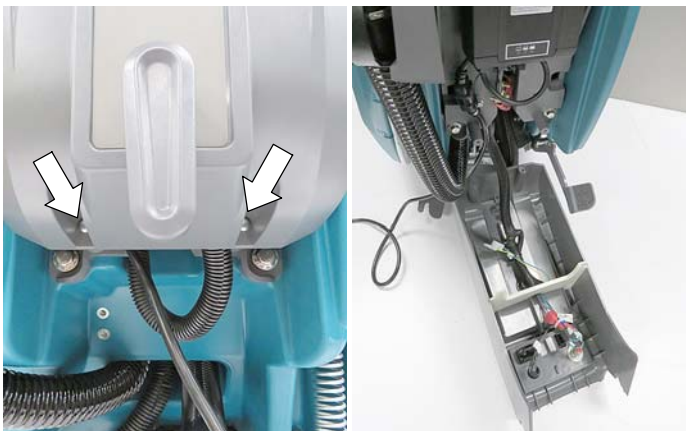

Fig. 1
3. Remove the two lower torque screws from bottom of control console and carefully lower the console cover to floor (Figure 1).